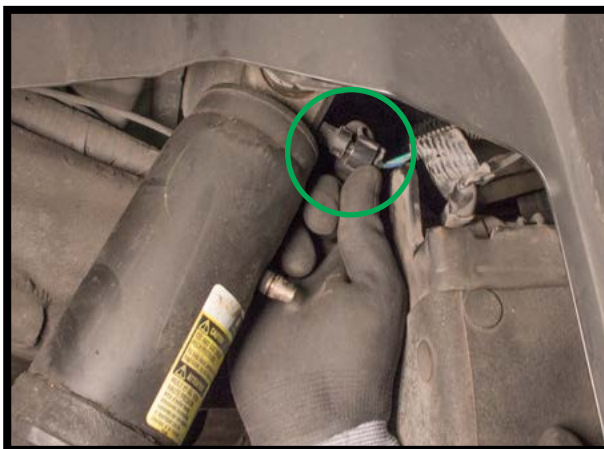

FIGURA 4
6. INDIVIDUARE E STACCARE IL CONNETTORE ELETTRICO DALL'AMMORTIZZATORE AD ARIA POSTERIORE SINISTRO. (FIGURA 4)